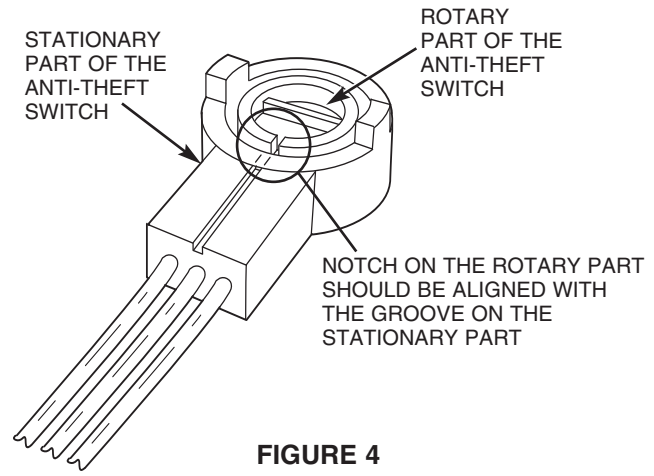

FIGURE 4
15. Assemble the anti-theft (if equipped) and then the lock lever in the orientations and directions recorded in steps A and B on page 2 (for set 2C6Z-1521990-BC add spacer (K) instead of switch) (refer to Figure 6). When assembling the anti-theft switch to the lock, DO NOT rotate rotary part of the anti-theft switch with respect to the stationary part of the anti-theft switch or vice versa (refer to Figure 4).